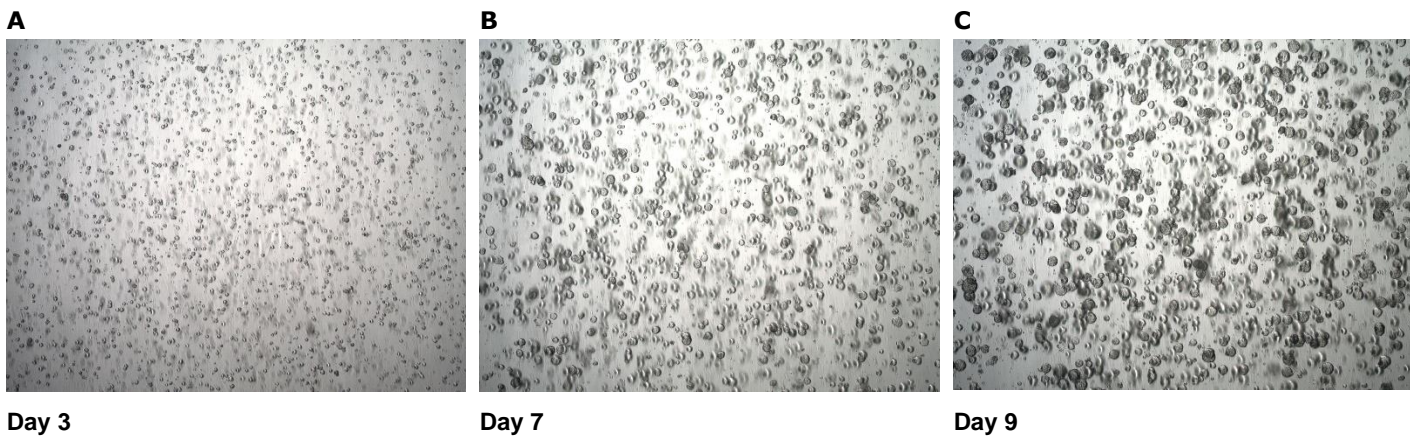

Figure 1: LPT.245 lung organoids cultured over 9 days (**A**, **B**, **C**) show an overall increase in size and maintain rounded morphology.
17. Cells are passaged once the organoids have recovered and have grown in size (Figure 1). This is typically 4-7 days but may take longer during the first thaw as certain organoid lines may recover more slowly.